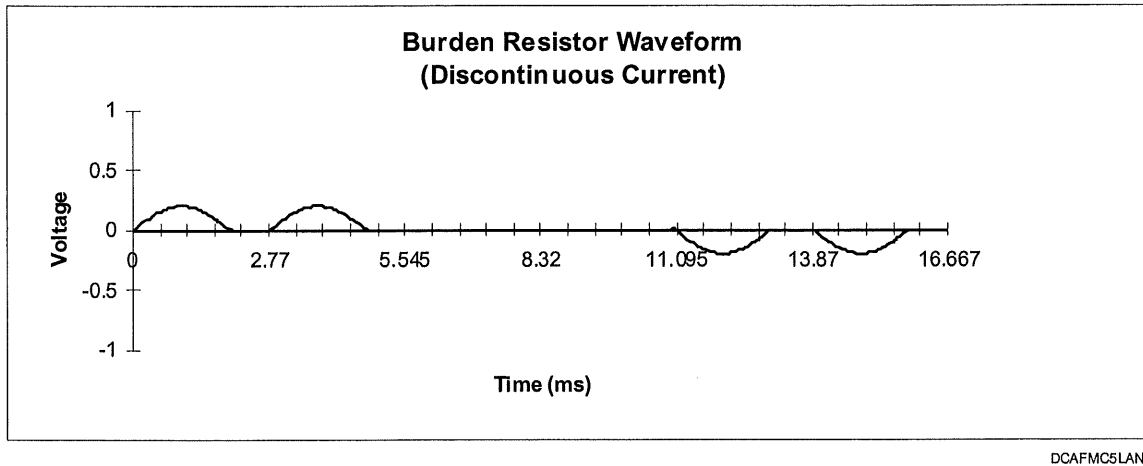

Figure 3-5. Burden Resistor Waveform (Discontinuous Current)
- 13) Turn the drive on while observing the scope. Apply a run command, such that the "RUNNING" LED is illuminated. Slowly increase the current command through the calibration parameter documented in step 7-a, while observing the scope. Stop increasing the current command when voltage pulses are observed on the scope. The observed waveform should resemble that of Figure 3-5.
- 22) Correct the CT polarities by switching the wire pair for the CT(s) whose feedback pulses are inverted from those shown in Figure 3-5.